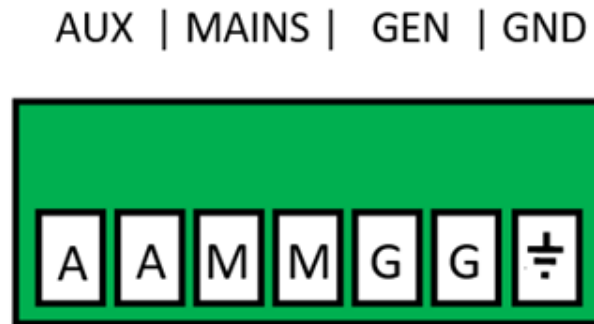

Fig. 4-2 7-position connector wiring example
5. If desired, wire the 7-position dry relay connector. Recommended wire strip length is 7mm, with a max torque of 5Lb-in. as shown in Fig 4-2 for reporting to the traffic controller.